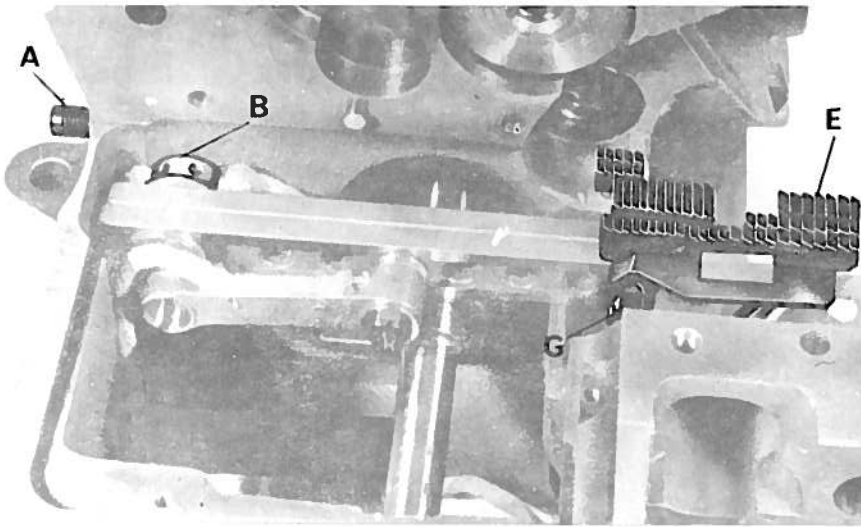

fig. 15
- Fit the front differential feed dog E with screw G but do not lock (fig. 15).